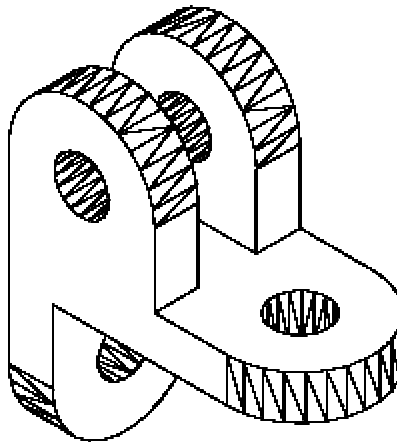

Figure 24-69 Model after union
10. Invoke the **UNION** command and then union all the objects, see Figure 24-69.